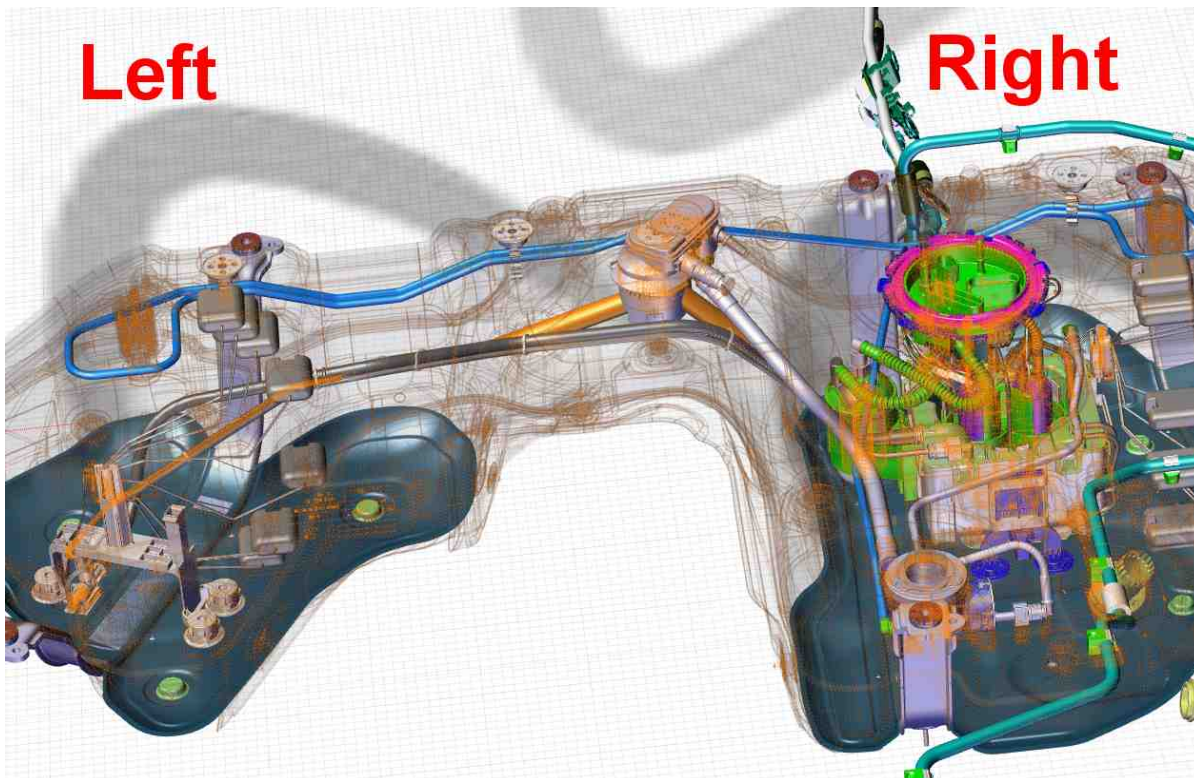

Figure 4
3) Should the pressure drop below 300 kPa after 10 minutes - Referring to Figure 4 - Gain access to the fuel pump assembly and fuel filter within the right hand side of the fuel tank – refer to ElsaPro, repair group 20